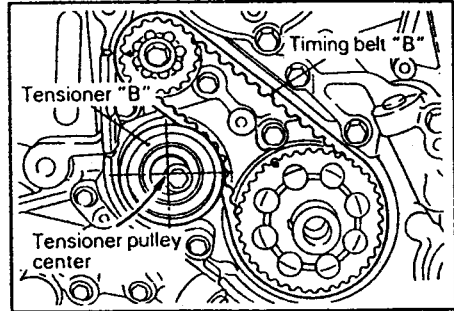

Fig. 15.26. — Fitting the tensioner for the small timing belt. Note where the tension side of the belt is located.
- Fit the belt tensioner. The centre point of the tensioner pulley must be located at the left-hand side of the mounting bolt. The pulley flange must be directed towards the front of the engine. Fig. 15.26 shows the tensioner pulley in fitted position.
at the point shown by the arrow in Fig. 15.26. With the tensioner tightened as described, it must be possible to deflect the belt by 5 to 7 mm.